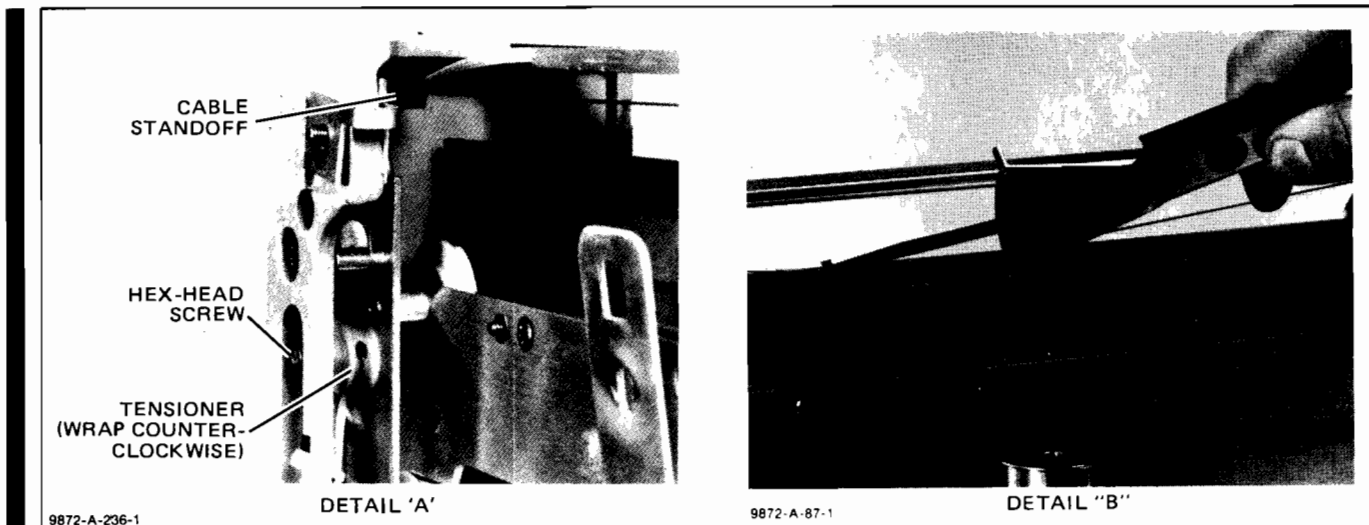

Figure 6-22. Y Cable Termination at Rocker Tension Arm
- z. Using a 0-700 gram gauge, adjust the cable tension as described in Section III of this manual. See Figure 6-22.